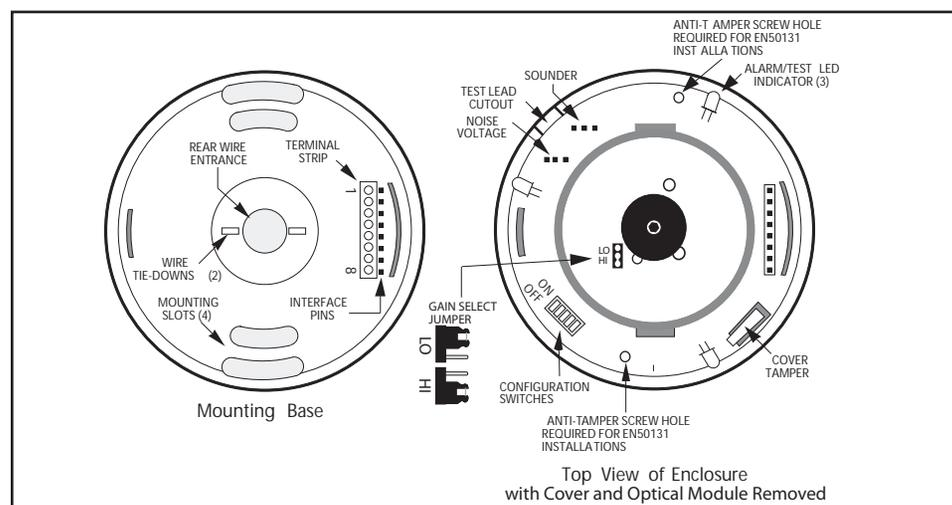

Figure 2.3: Overview
3. Route wiring as necessary to the rear of the base and through the center hole. Refer to *Figure 2.3*.
The DS938Z permits selection of the signal gain depending upon the environment to be protected. The gain select jumper is located under the optical module. Refer to Figure 2.3.